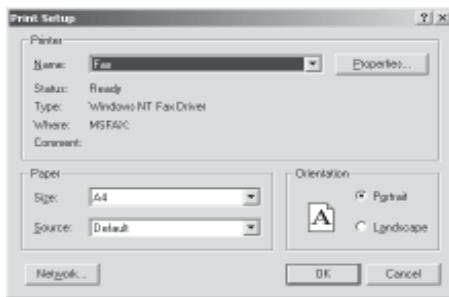

Fig. 6-3 Print Setting Dialogue Block
1. Select and click the options **System Print**, then a dialogue block required to carry out the print setup operation will be displayed in the interface as in Fig. 6-3.